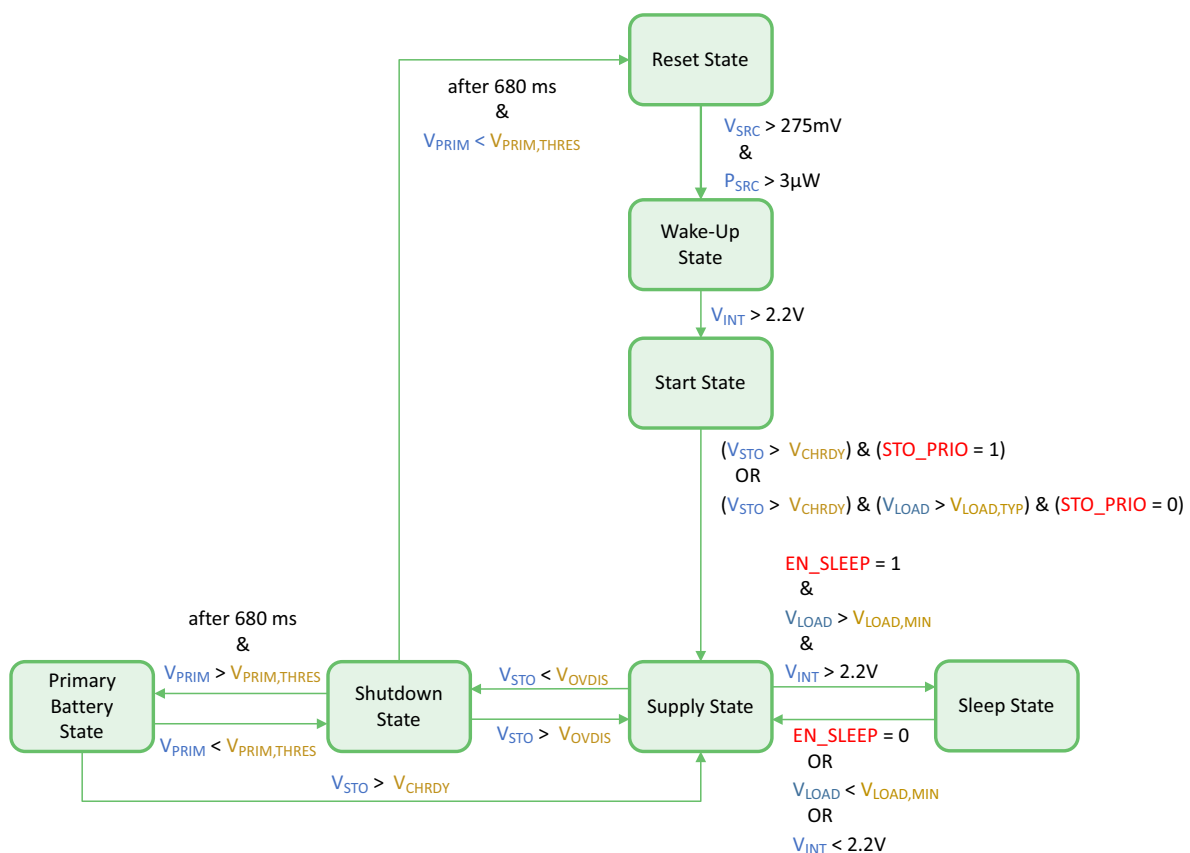

Figure 5: Diagram of the AEM30330 States
- If **EN_SLEEP** is asserted and conditions (shown on Figure 5) on V_{LOAD} and V_{VINT} are satisfied, the AEM enters **SLEEP STATE** (see section 7.5).
When **V_{STO}** drops below **V_{OVDIS}**, the circuit compares the voltage on **PRIM_FB** to a 1V voltage reference to determine whether a charged primary battery is connected on **PRIM**. The voltage on **PRIM_FB** is set thanks to two optional resistances as explained in Section 8.9. If the voltage on **PRIM_FB** is higher than 1V, the circuit considers the primary battery as available and the circuit enters **PRIMARY BATTERY STATE** as shown on Figure 5.